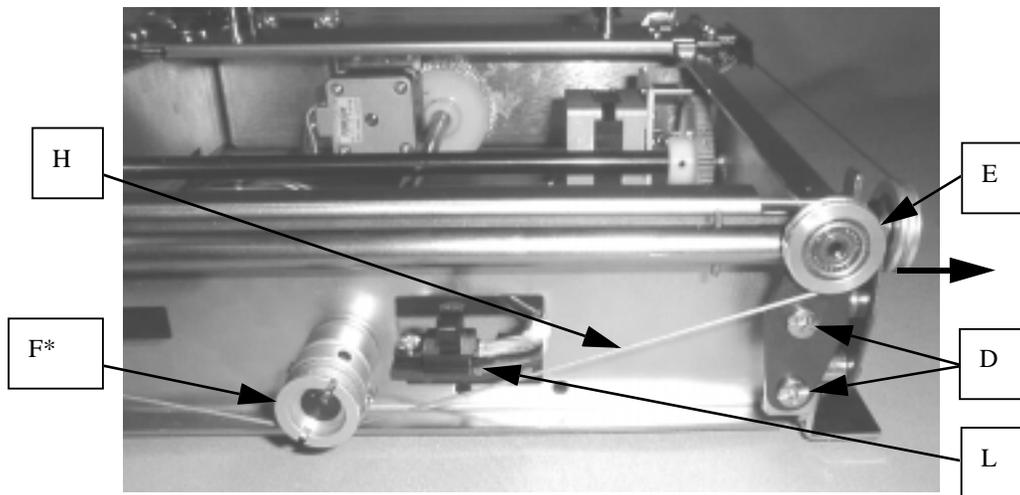

FIGURE 16-8
12. Turn wire (H) counterclockwise by six and half turns on the sensor (L) side pulley (F*) while closely attaching the wire to pulley (F*), apply it to wire pulleys (E) in the order of the right and left sides, and mount ball(R) to cut (P*) as shown in Fig.16-8.
13. Bring the wire pulley (E) shown in Fig.16-8 in the arrow direction to eliminate the looseness of the wire, and tighten setscrews (D) lightly.